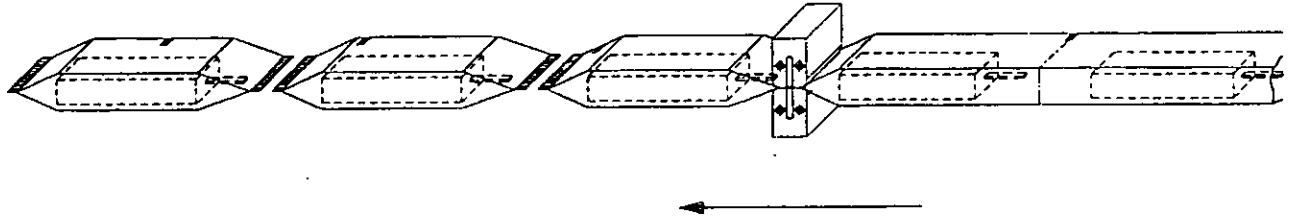
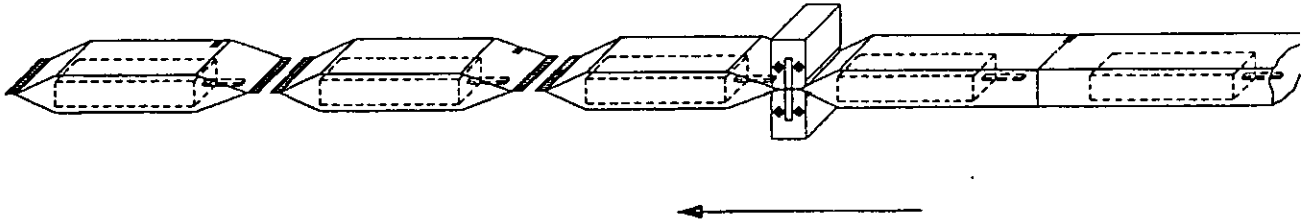

Fig. 8
Fig.9.
- Check the photo marks' travelling. The mark **must only** travel forwards. The travelling may surpass 5 mm from bag to bag. See Fig. 8 & Fig. 9.
The bag length is too long - the cross sealing rollers are running too quickly, see Fig. 8.
The bag length setting is now correct, -the cross sealing rollers are running with correct speed, see Fig. 8.
The bag length is too short - the cross sealing rollers are running too slowly, see Fig. 9.